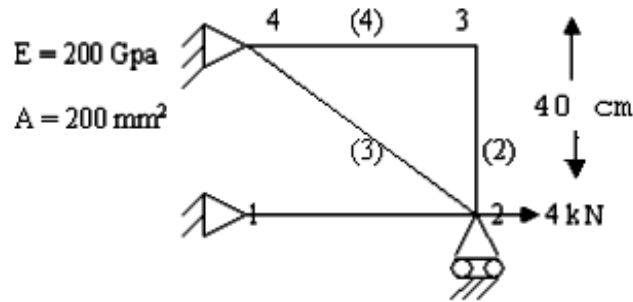

Figure.4
5. a) For the truss structure shown in figure 4 is subjected to a horizontal load of 4 kN in positive x-direction at node 2. Calculate (a) stiffness matrix and (b) stresses. 8M